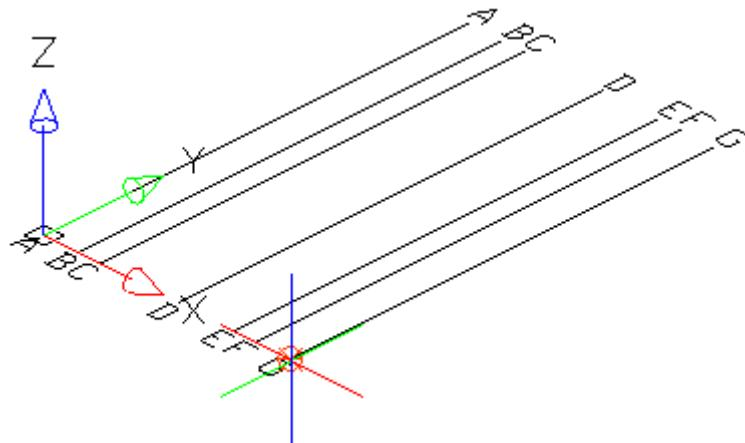

Figure 5: Defining the starting point of the axis group
2. Define the start point of the first axis of the group: click on the **G** axis corresponding end point as in the Figure 5: